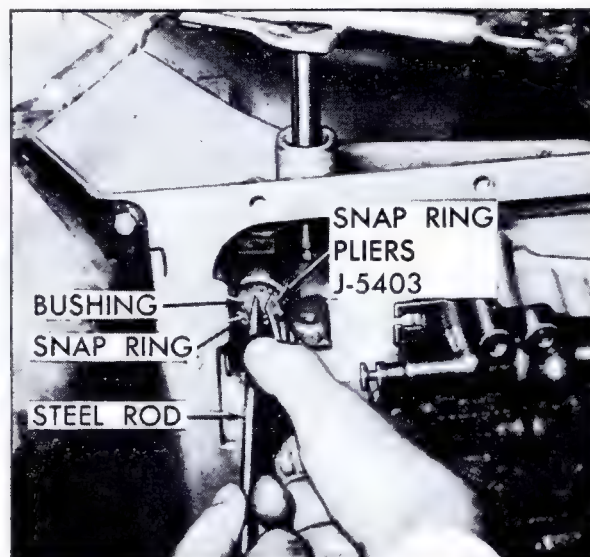

Fig. 7-37 Removing and Installing Pressure Regulator Valve
5. Using a screwdriver or steel rod, compress regulator boost valve bushing against pressure regulator spring, Fig. 7-37.
5. Using a screwdriver or steel rod, compress regulator boost valve bushing against pressure regulator spring until it is beyond snap ring groove, and install snap ring using Snap Ring Pliers, J-5403 (#21), Fig. 7-37.